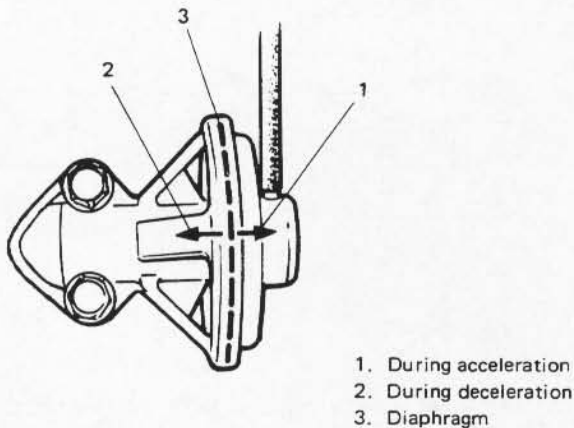

Fig. 5-2-18 Movement of EGR Valve Diaphragm
2) Warm up engine to normal operating temperature and race it after warming up. Then check to be sure that diaphragm moves toward ① in Fig. 5-2-18 during acceleration and toward ② during deceleration.